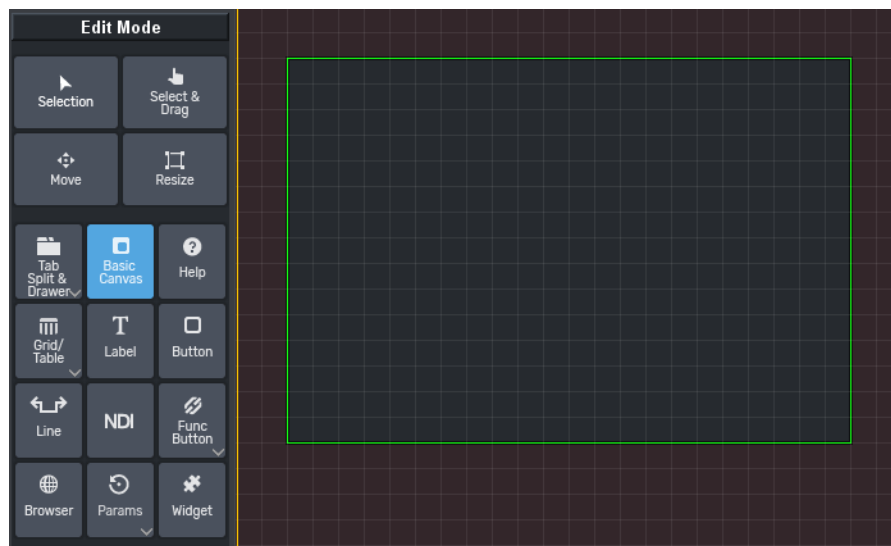

Figure 5.15 - Adding a Basic Canvas (with **Basic Canvas** button selected, dragging to define canvas area)
2. Drag a box on the panel to define the canvas area. The area outlined in green in **Figure 5.15** is a basic canvas area.